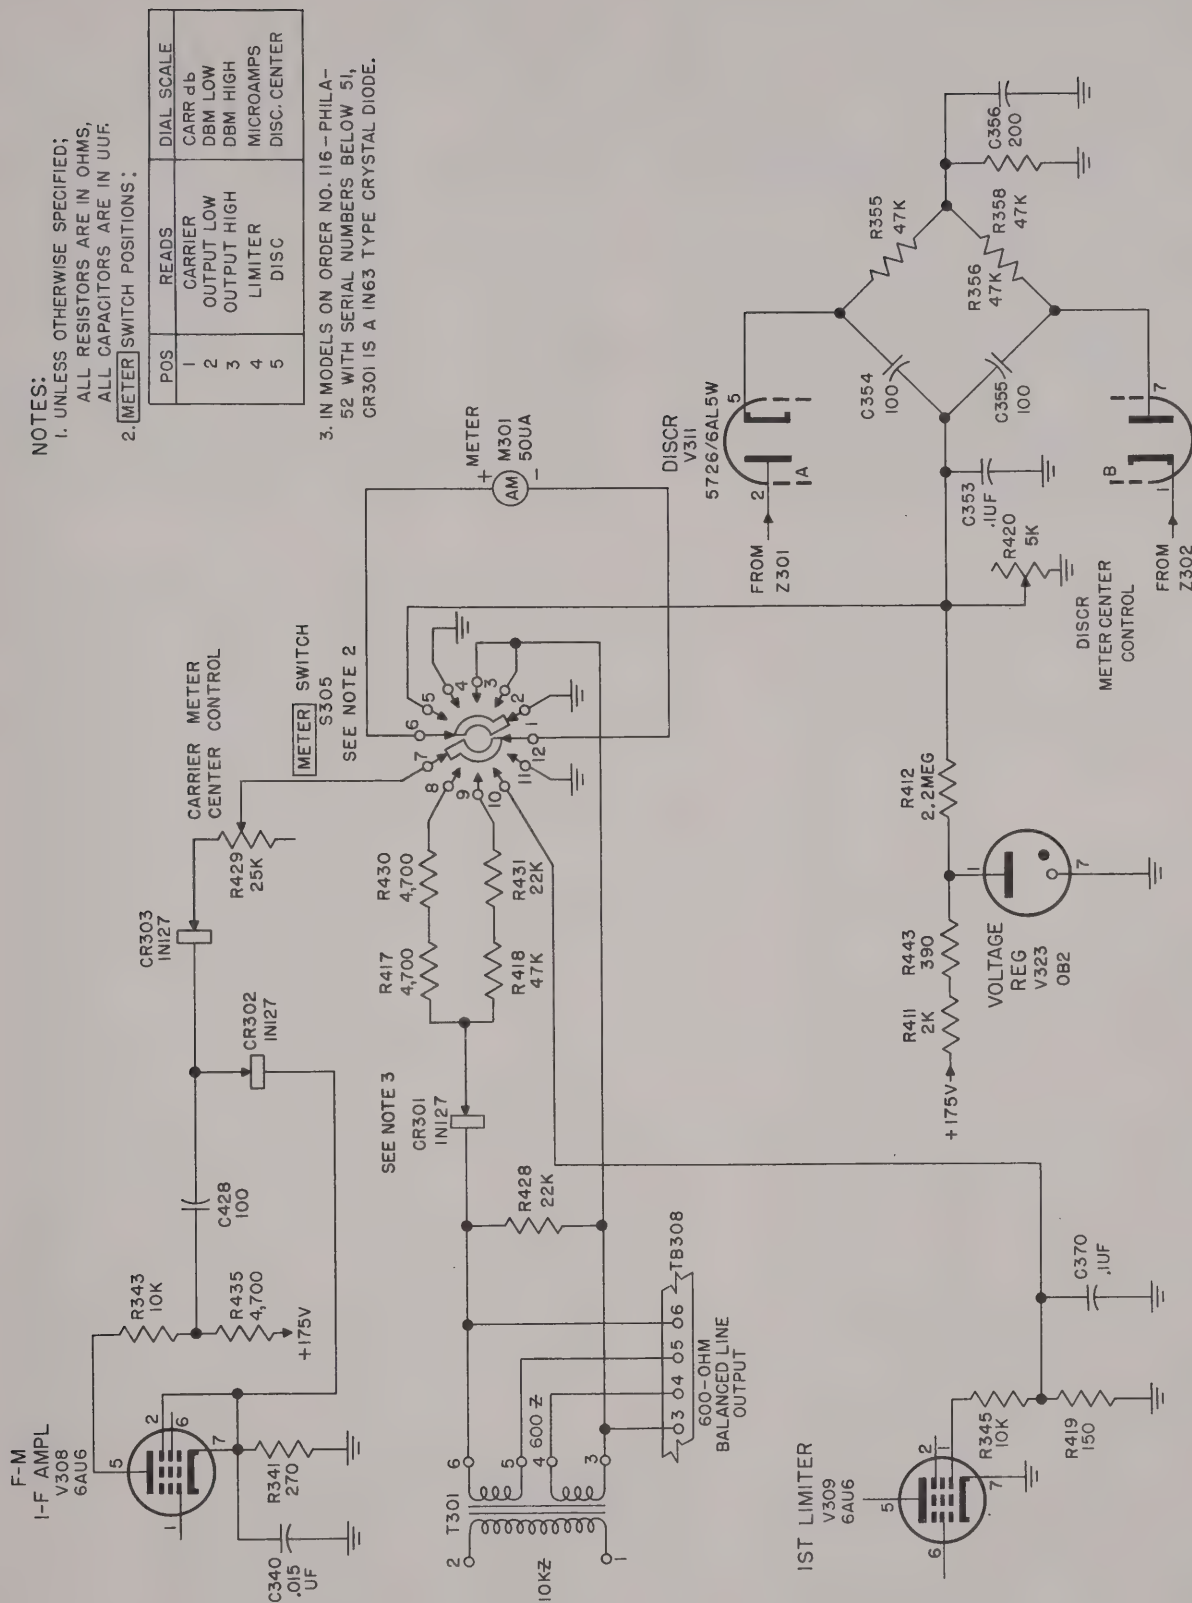

Figure 72. Meter circuits.
b. Purpose and Use (fig. 72). The METER switch, S305, switches the meter to any one of five positions. These positions are CARRIER, OUTPUT LOW, OUTPUT HIGH, LIMITER, and DISC.
- (1) *Position 1, CARRIER.* The d-c output from the agc diode V316 is applied to the grid bias circuit at the junction of R378 and R379, where it is negative with respect to ground. Since this voltage is proportional to the average signal input, the current through R429 will vary accordingly. A portion of